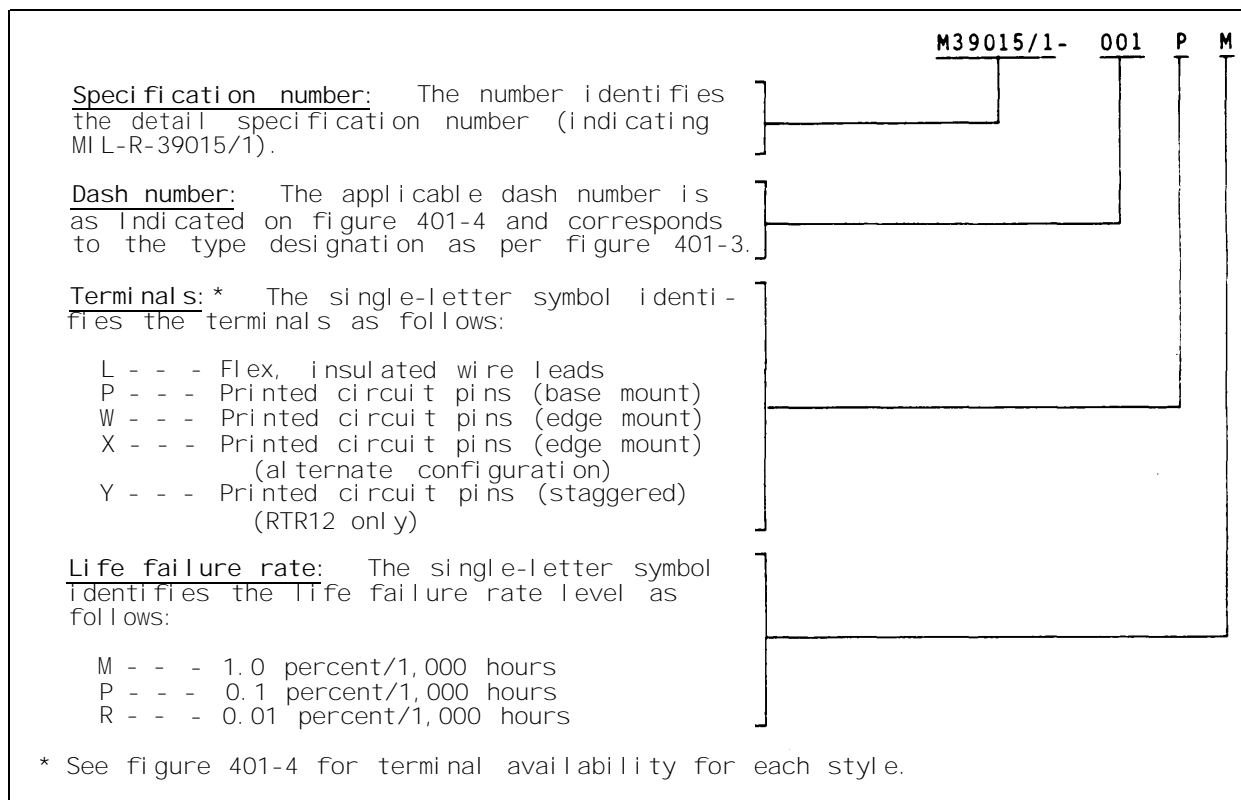

FIGURE 401-2. PIN example.
3. ITEM IDENTIFICATION (see figures 401-2 through 401-4).
3.1 PIN. The PIN is used for identifying the resistor as shown on figure 401-2.